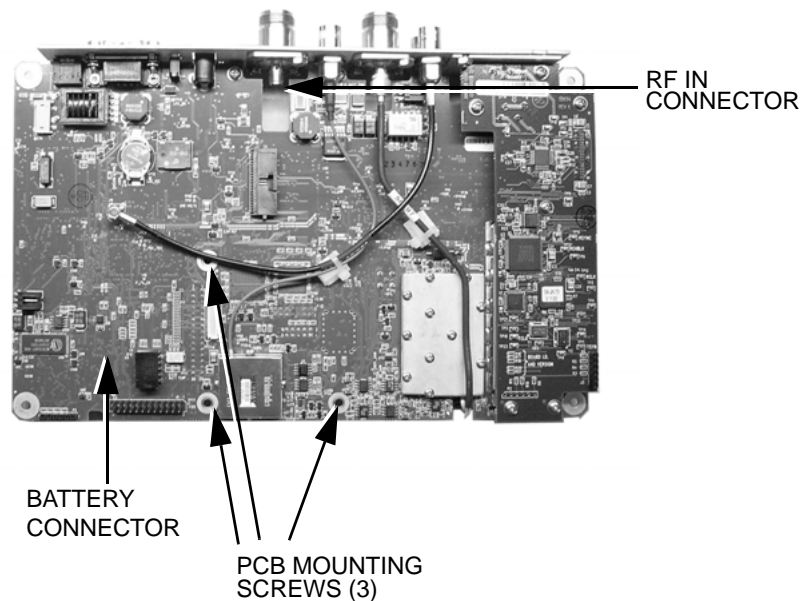

Figure 4-7. Main PCB (shown with T1/E1 PCB installed)
4. Remove the three PCB mounting screws and lift the Control PCB assembly with the connector panel attached slightly (Figure 4-7).